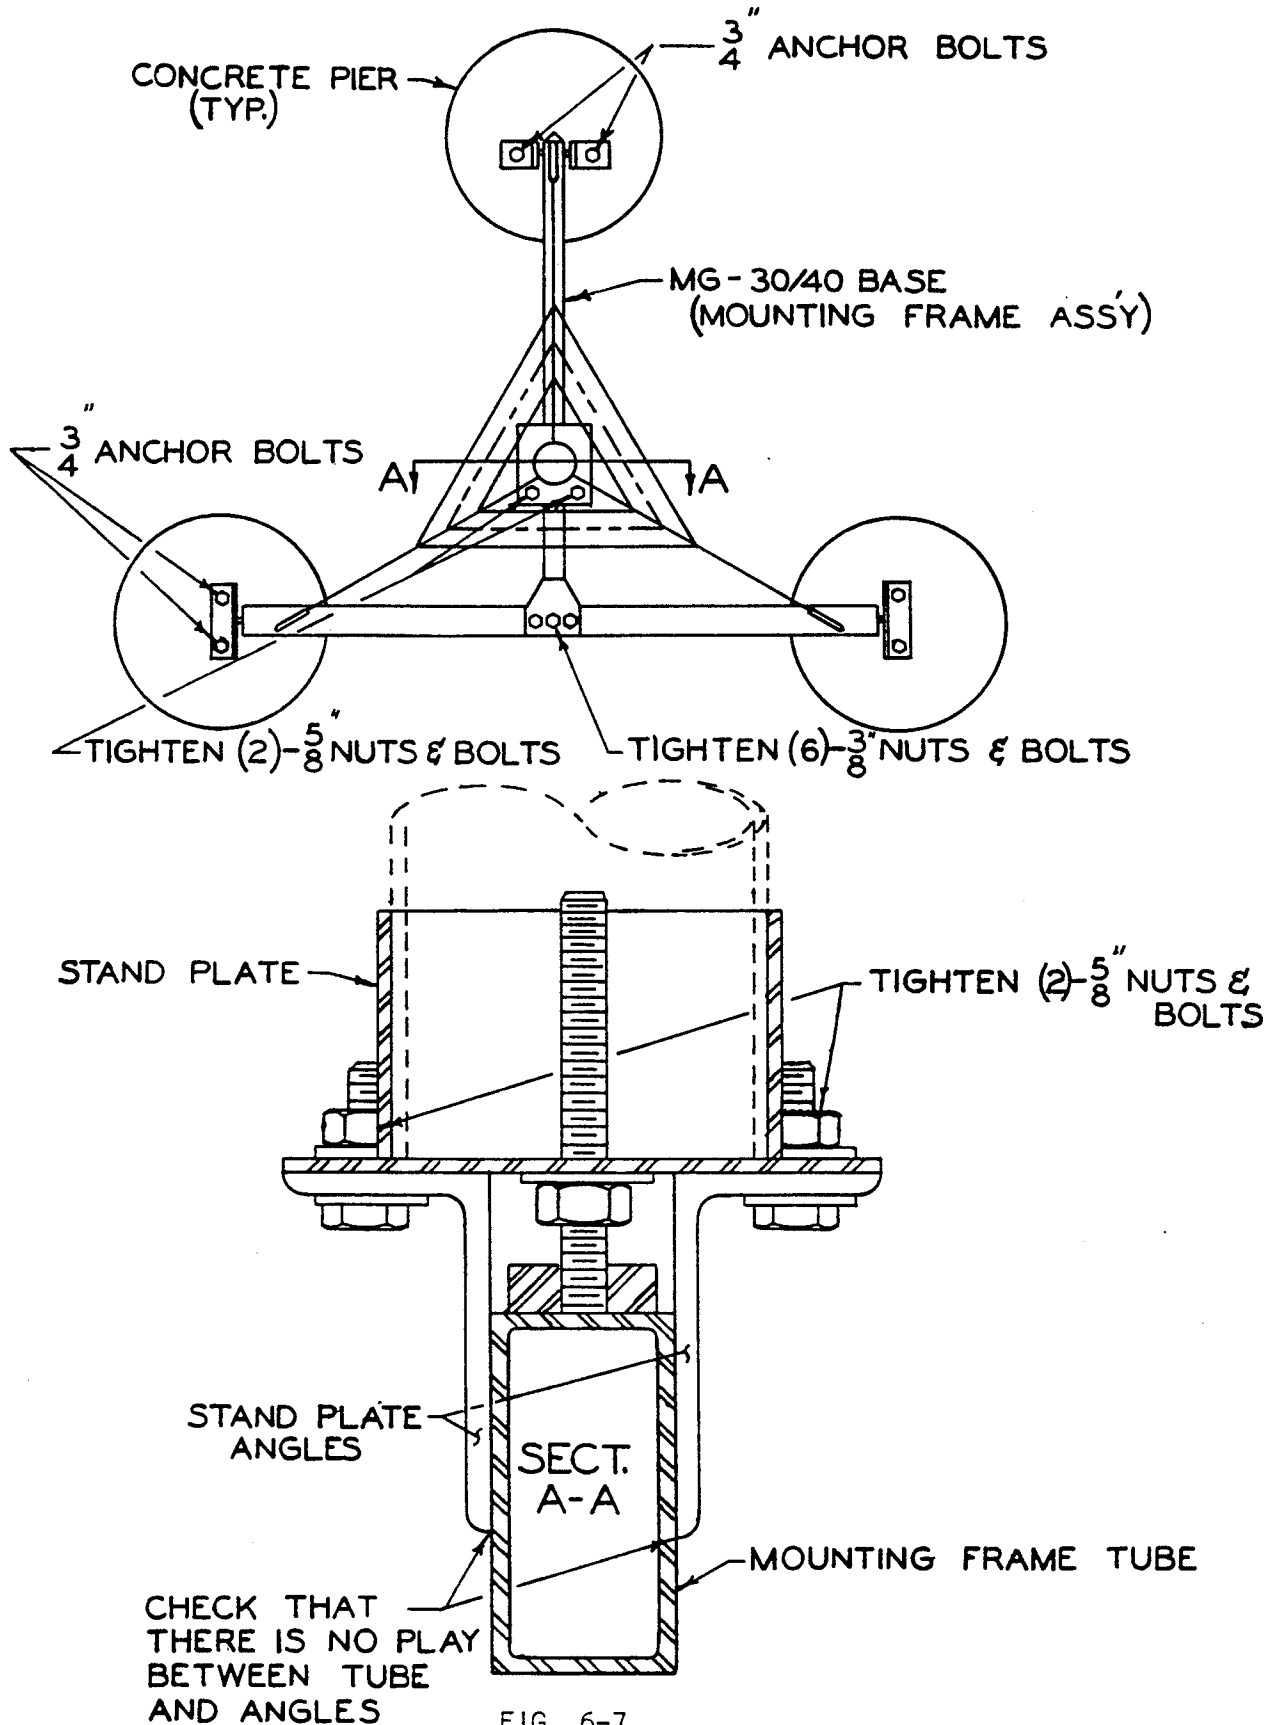
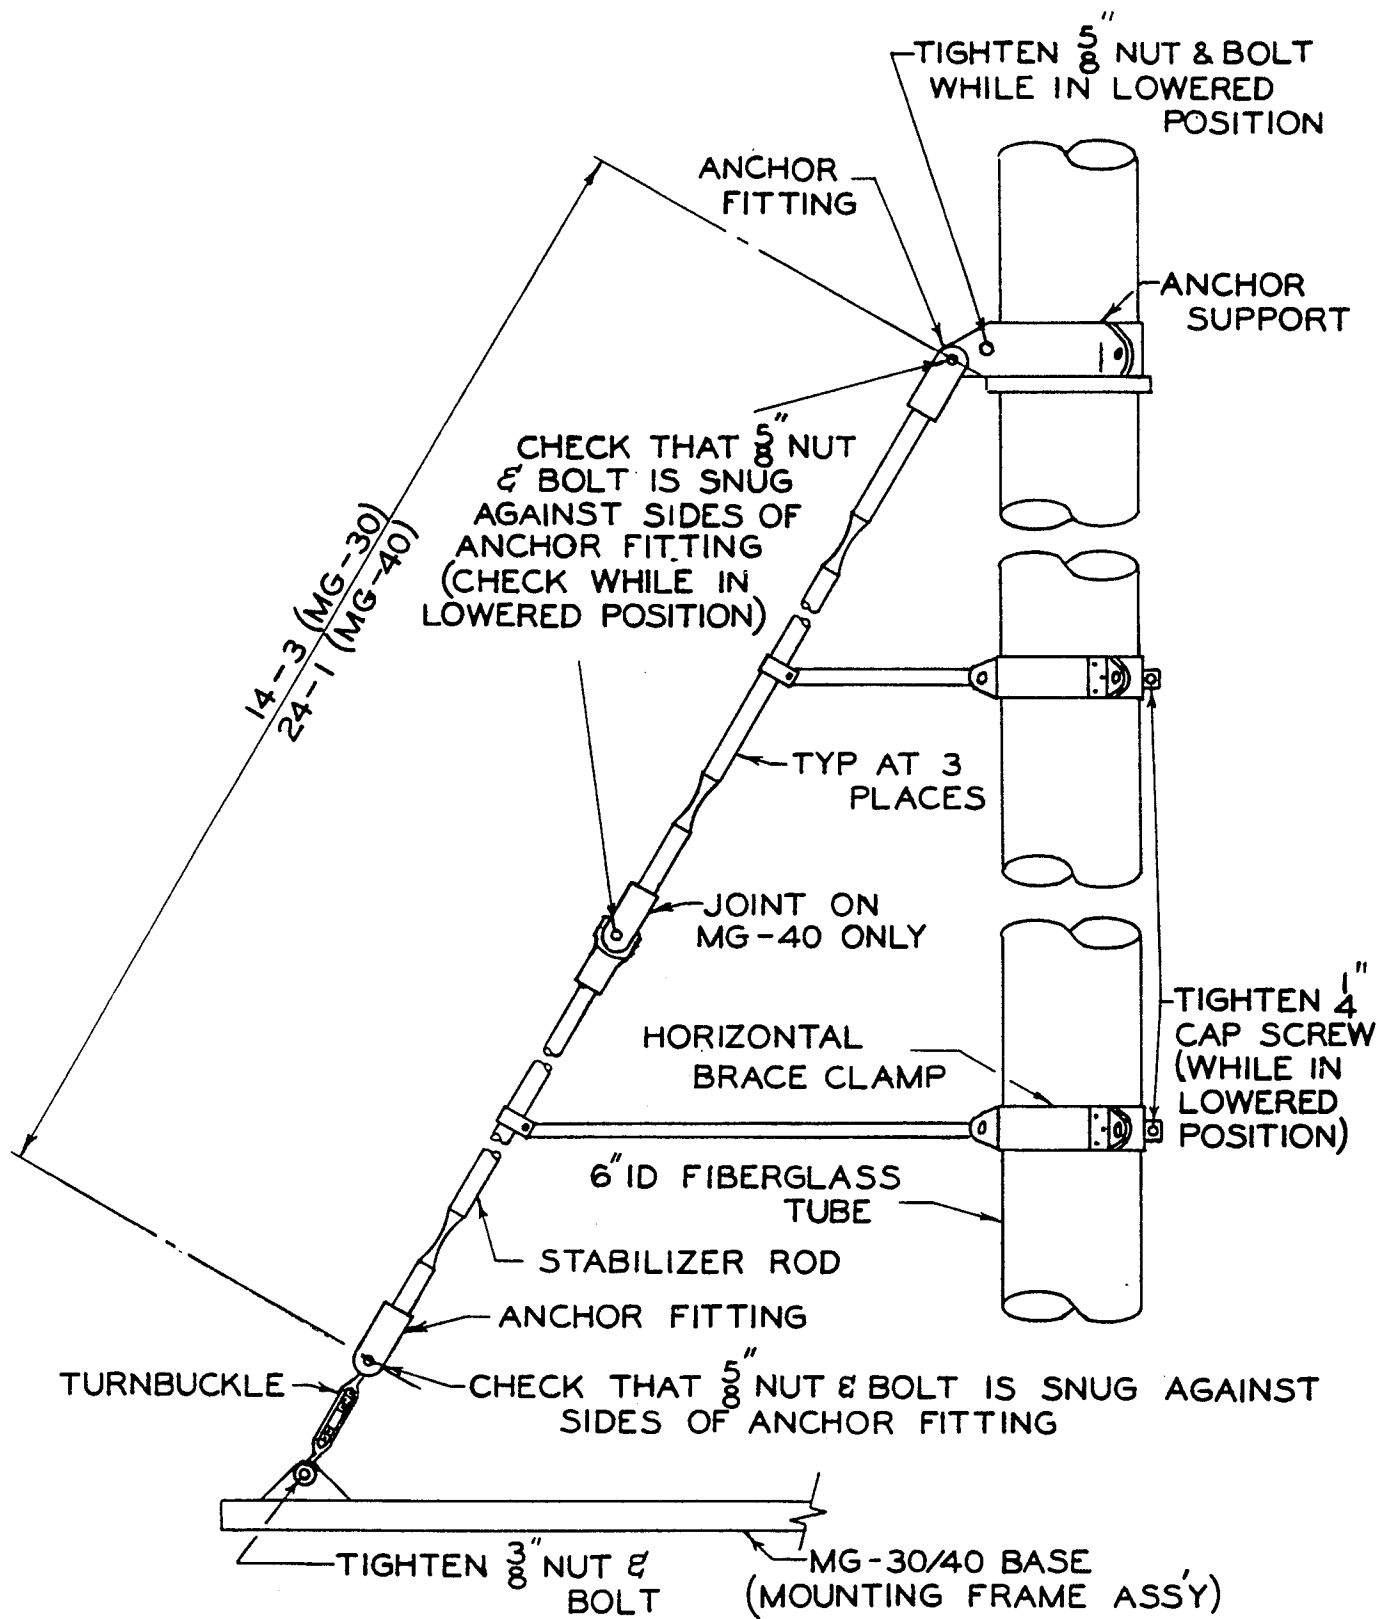
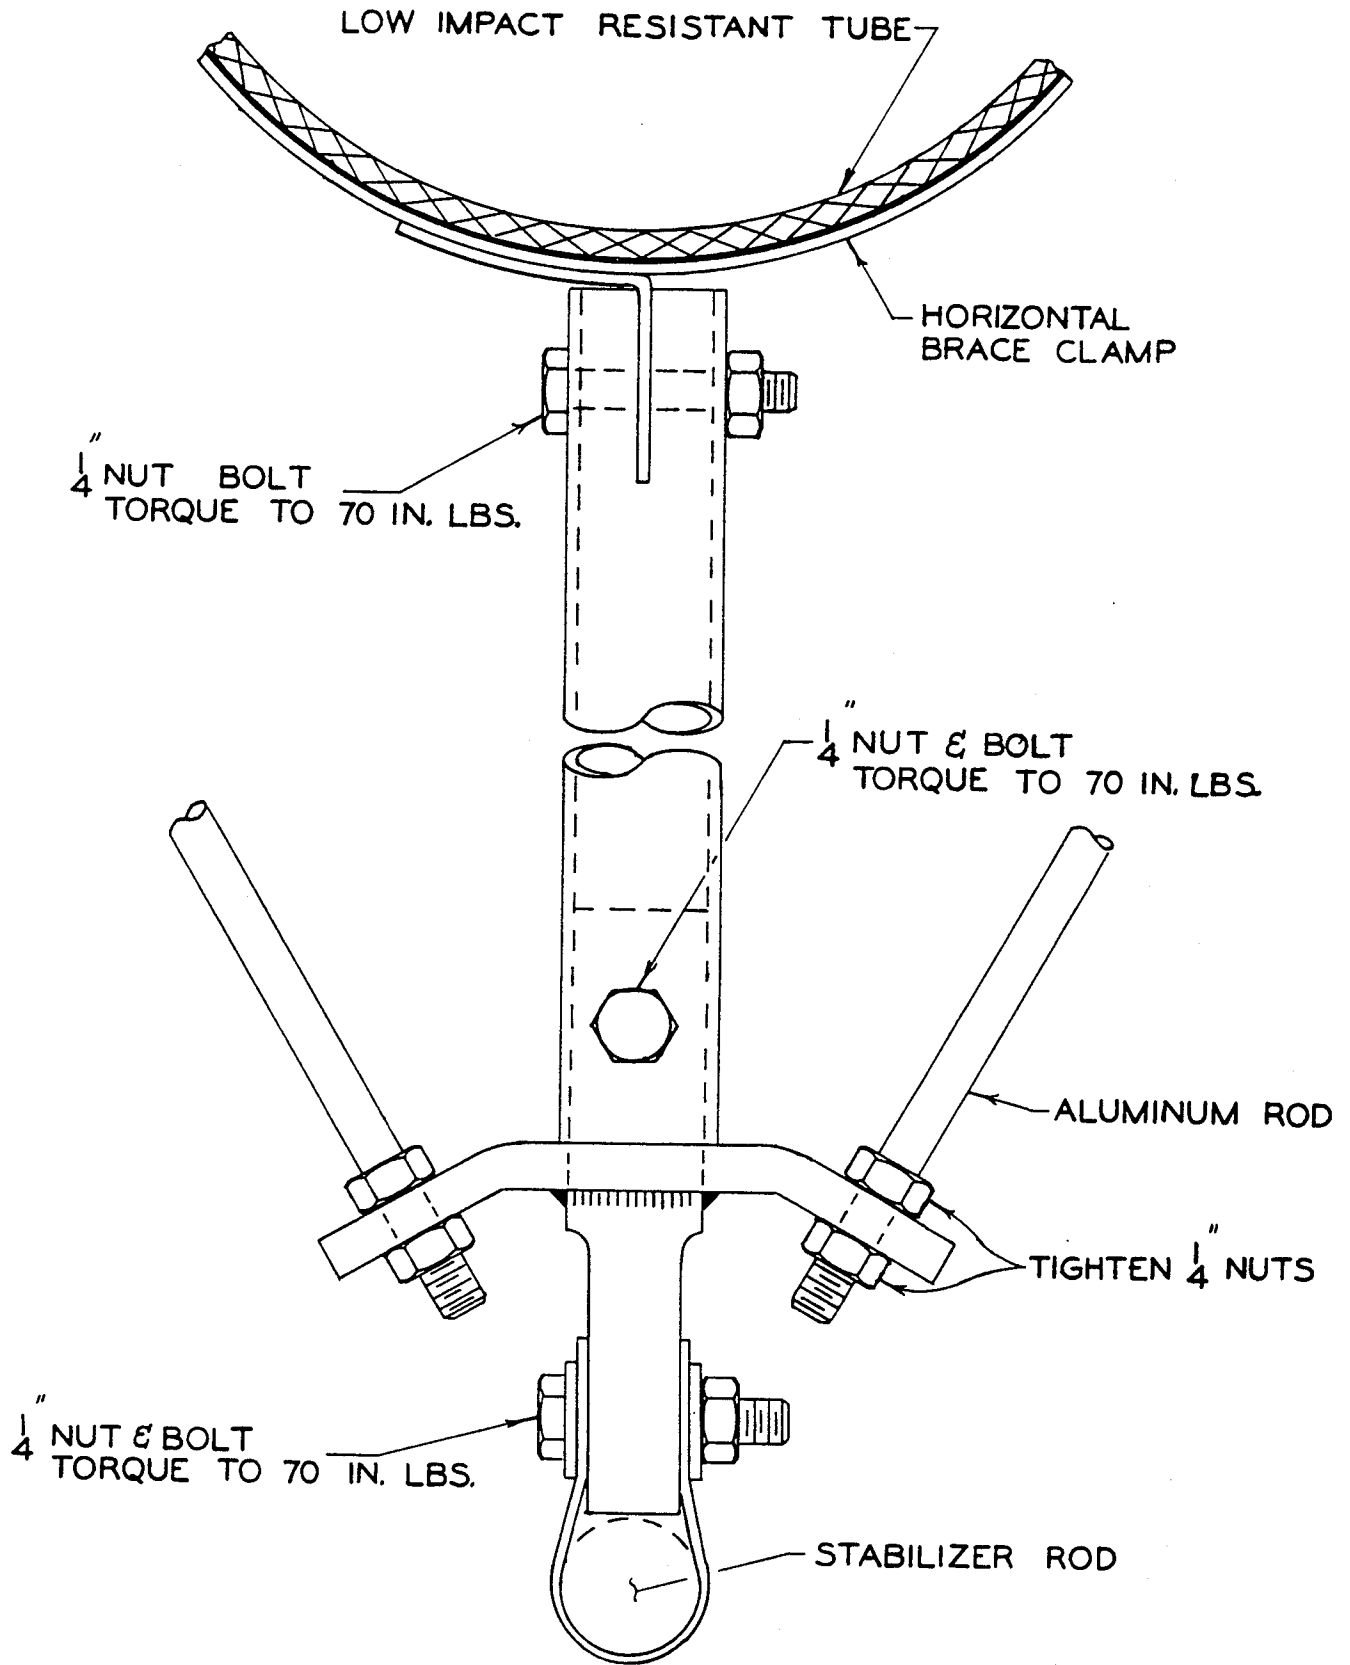

FIG. 6-7
FIG. 6-8
FIG. 6-12
2. With the MG-20 LIR structure in the raised position, tighten the (4) 5/8" nuts that hold the aluminum stand plate to the MG-20 base. Also, tighten the (2) 5/8" nuts that hold the lighting bar to the MG-20 base (See Fig. 6-6). Use a 15/16" combination wrench. With the MG-30 or MG-40 LIR structure in the raised position, tighten the (2) 5/8" nuts and bolts that attach the stand plate angles to the stand plate (See Fig. 6-7). Also check tightness of the (3) 5/8" nuts and bolts that are located on the upper end of the turnbuckle (See Fig. 6-8)
Do not apply excess torque to these (3) 5/8" turnbuckle bolts. Just check that they are snug against the sides of the aluminum anchor fitting. Use two 15/16" combination wrenches for tightening the 5/8" nuts and bolts. Now tighten the (6) 3/8" nuts and bolts that attach the splice plate to the channel member on the LIR structure base. (See Fig. 6-7) Also check tightness of the (3) 3/8" nuts and bolts on the lower end of the turnbuckle (See Fig. 6-8). Use two 9/16" combination wrenches for tightening the 3/8" nuts and bolts.
MG-30/40 LIR Structures: With the MG-30/40 LIR structure still in the lowered position check tightness of all 1/4" nuts and bolts on the horizontal stabilizers. (See Fig. 6-12) Use a torque wrench, 7/16" socket and 7/16" combination wrench to torque these nuts and bolts to 70 in. lb. + 5 in. lb. - 0 in. lb. The 1/4" nuts on the aluminum rods should be tightened with two 7/16" combination wrenches. Also check the tightness of the (3) 5/8" nuts and bolts at the upper end of the stabilizer rod. Do not apply excess torque to these nuts and bolts. Just insure that they are snug against the sides of the aluminum anchor fitting. See Fig. 6-8) Tighten the (3) 5/8" nuts and bolts on the anchor support. Use two 15/16" combination wrenches for tightening these 5/8" nuts and bolts. Now tighten 1/4" cap screw on horizontal brace clamps with a 3/16" allen wrench (See Fig. 6-8)